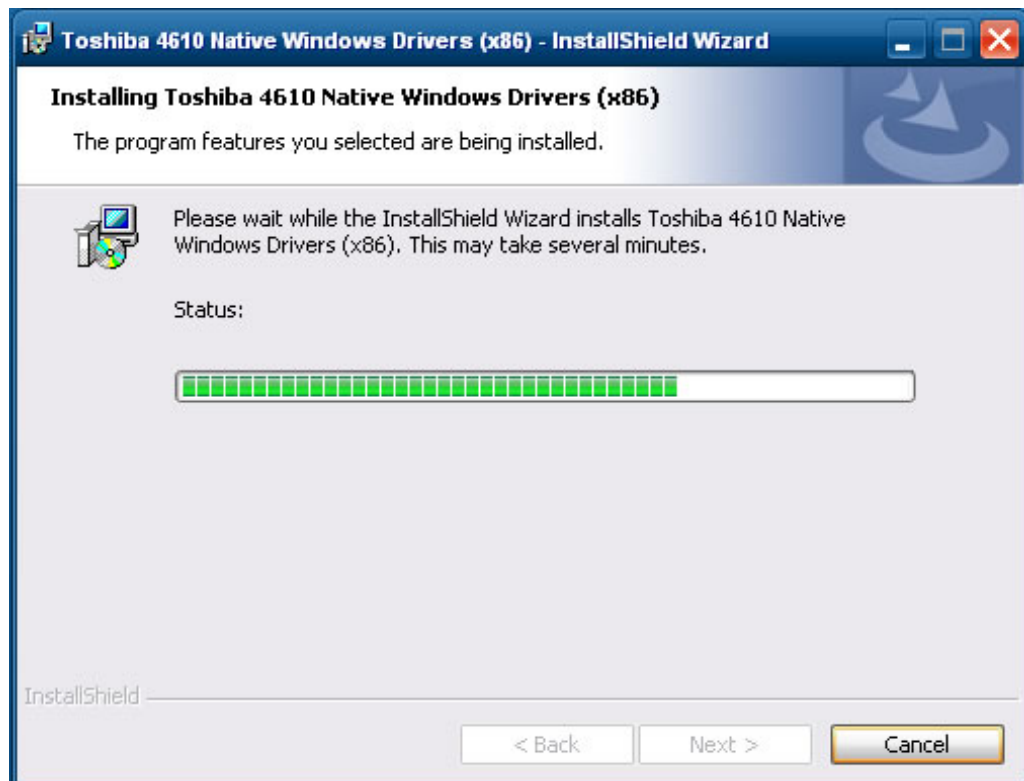

Figure 24. Progress window
11. An "Installation in progress" window opens during the installation process Figure 24.